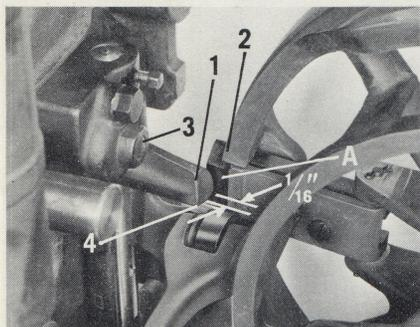

Fig. 5
5) With the starting handle pulled all the way out, the vertical lever 1 in Figure 5 should push the stopping pawl 2 so that it will
necessary, at the same time maintaining finger pressure on the lever toward the pawl. When the clutch handle is pushed in, vertical lever 1 should clear pawl 2 by  $1/32''$  at point A. This adjustment is made by the screw located on the column of the machine, directly behind the vertical lever, and is not visible in Figure 5.